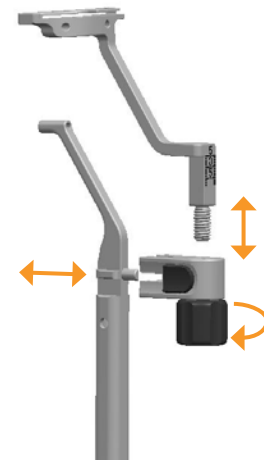

Figure 3
3. Attach the EM Tibial Alignment Guide Micro Head Dial to the Alignment Tube by depressing the button on the Micro Head Dial sliding it onto the Alignment Tube (Figure 3).
4. Attach the appropriate hand Cutting Guide Head to the Micro Adjustment Tibial Alignment Dial by engaging the threads and rotating the black dial (Figure 3).